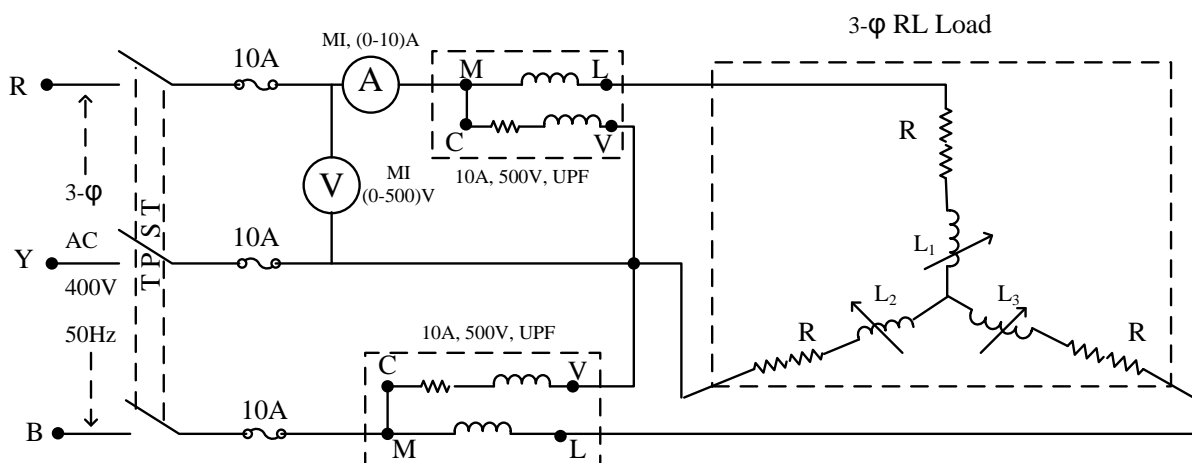

Fig. 1 Measurement of real power and power factor
Real power in balanced (or unbalanced), 3-phase circuits can be measured by employing two wattmeters in the three lines supplying the load system, irrespective of whether the load is star or delta connected (or a combination of them). The schematic circuit arrangement used for such a measurement is shown in Fig. 1. The current coil (cc) of the wattmeters carry line current and the pressure coil (pc) of wattmeter have line voltage impressed across it. In order to verify the possibility of 3-phase power measurement with the help of two wattmeters, let us consider that the load is Y-connected and let the instantaneous voltages and currents in the R, Y and B phases of the load be (v_R, i_R) , (v_Y, i_Y) and (v_B, i_B) respectively.
Examination of the circuit in Fig.1 will show that the current through the current coil (cc) of W_1 is i_R and the voltage across the pressure coil (pc) of W_1 is $v_R - v_Y$. Similarly, the current through the cc of W_2 is i_B and the voltage across the pressure coil of W_2 is $v_B - v_Y$. Hence, at any instant,
1. Make connections as per the circuit diagram as shown in the Fig.1.